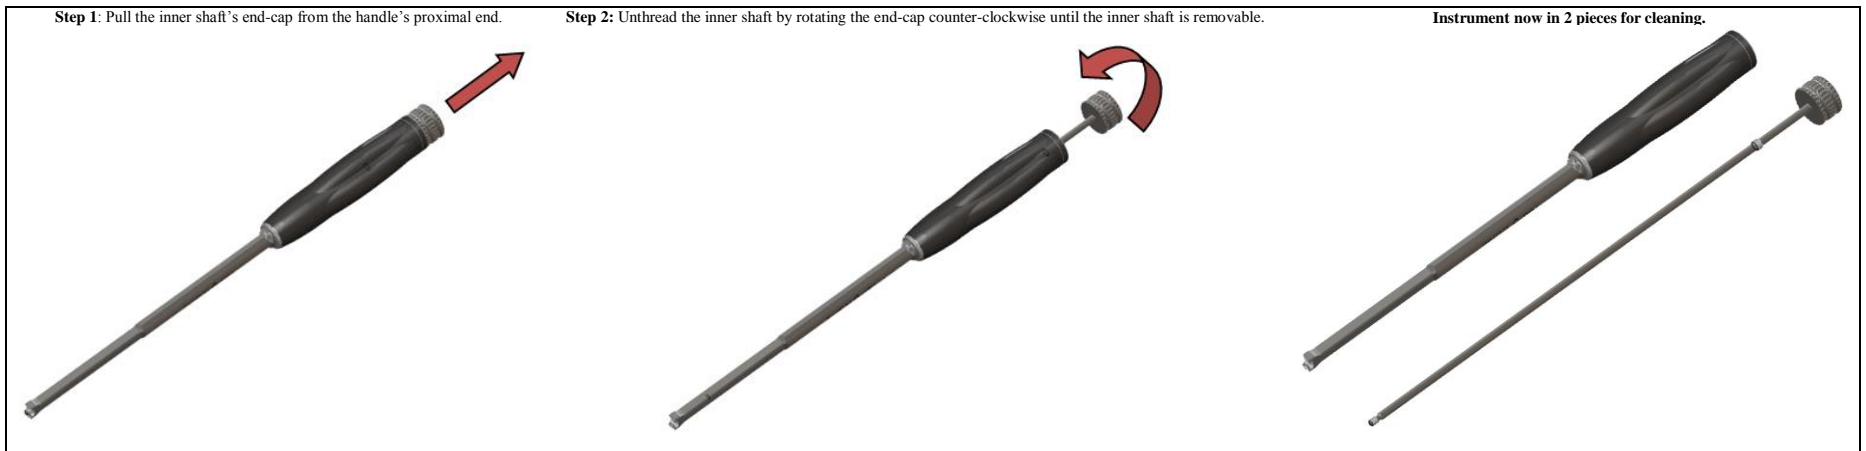

Figure 1: (Dis)assembly instructions for Straight Implant Inserter and TLIF Implant Inserter
2. **Pre-Cleaning:** The Straight Implant Inserter (p/n 2141-000-001) and TLIF Implant Inserter (p/n 2141-000-002) must be disassembled before cleaning. To disassemble the Straight Implant Inserter and TLIF Implant Inserter, remove the inner shaft by unthreading at the handle's proximal end (Figure 1). No other S141 Lumbar Interbody Fusion System instruments require disassembly. Prepare a room temperature neutral pH enzymatic cleaner\* (e.g. ENZOL® Enzymatic Detergent) and remove gross contaminants by thoroughly brushing devices with a soft bristled brush ensuring all hard to reach areas are accessed.
4. **Rinsing:** Thoroughly rinse the devices with deionized or distilled water for a minimum of 2 minutes. Repeat rinsing a total of three (3) times.